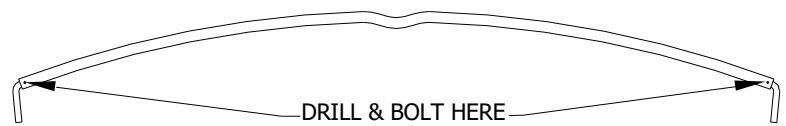

Figure 8
**Procedure:** Hoops (J) are provided according to the length of the trailer. Equally space the hoop holders (G) along the length of the trailer and locate the top edge of the hoop holder 1inch down from the top edge of the inside trailer wall. Once in place mark the position of the hoop holder and drill two 3/16" holes into the trailer wall. Secure the hoop holder using the 1/4"x1" lag screws provided. Follow this procedure to the remaining hoop holders making sure that they are at the same level, equally spaced, and directly across from each other. Insert bent angle (K) with one end fitted into the hoop holder (G) and the other end in the hoop (J), then repeat for the opposite side of the trailer. Measure the vertical distance from the inside of the trailer floor to the top center of the front or rear hood. Record the measured distance. Center the hoop on the bent angles (K) and measure the vertical distance from the inside trailer floor to the top center of the hoop. The measurement to the top of the hoop should be 3/4 inch greater than the distance from the trailer floor to the top of either hood. If the distance is less than or greater than the required 3/4 inch, adjust the hoop and bent angles accordingly. Drill and bolt the hoop to the bent angles using 1/4x1-3/4 inch bolts provided making sure that the hoop is parallel with the bent angles (see Figure 8).